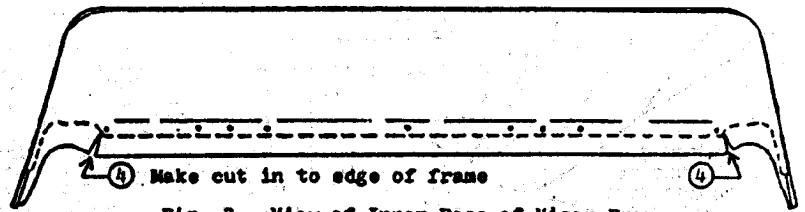
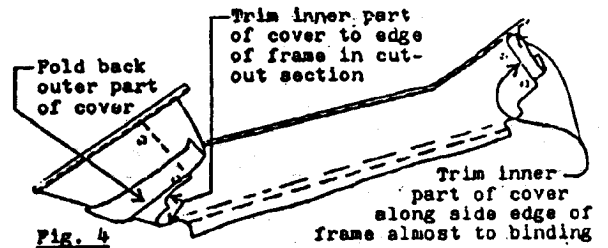
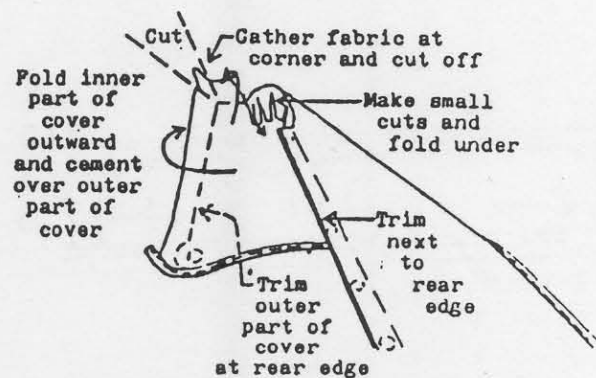

Fig. 3 - View of Inner Face of Visor Frame
Fig. 4
Fig. 8 - 1928-29 Leatherback Fordor
4. Fold the outer part of the cover back about 2" (see Fig 4). Just beyond the ends of the straight part of the rear edge of the frame, where the cutout sections at the rear sides begin, make cuts in the inner part of the cover, (4, Fig. 3). Cut into the edge of the frame. For all models except the: 1928-29 Leatherback Fordor (60-A and 60-B), trim off the inner part of the cover at the edge of the frame all along the cutout section of the frame and down the rear edge of the side of the frame to the binding. Do NOT cut the binding. Trim the fabric of the inner part of the cover as close to the edge of the binding as you can without cutting the binding (see fig 4 and 5). For these models, the outer part of the visor cover will be brought around the rear edge of the frame and cemented over the inner part of the cover. For the 1928-29 Leatherback Fordor, the opposite is true. The outer part of the cover will be trimmed away along the rear side edges, and the inner part of the cover will be brought around and cemented over the outer part, (see fig. 8).
8. Now, from that cut around to a point one inch in from the side edge of the frame, trim the fabric around the cut out section of the frame down to 3/8 of an inch from the frame (8, fig. 6). Around these cutout areas of the frame, make a series of cuts down to within 1/8 of an inch of the frame. Fold the fabric in these areas down and cement it to the inside of the frame over the inner part of the cover (fig 7). Except for the 1928-29 Leatherbacks, fold the rear sides of the cover inward and cement them over the inner part of the cover. For Leatherbacks, fold the inner part of the cover outward and cement it over the outer part (fig 8). For all models, be sure you don't apply cement to the cover beyond the points that will be concealed by the upper body pillar of the car. Tuck the ends of the binding between the side of the visor and the body pillar when installing the covered visor onto the car.
• Except for 1928-29 Leatherback Fordors (See Fig. 8)